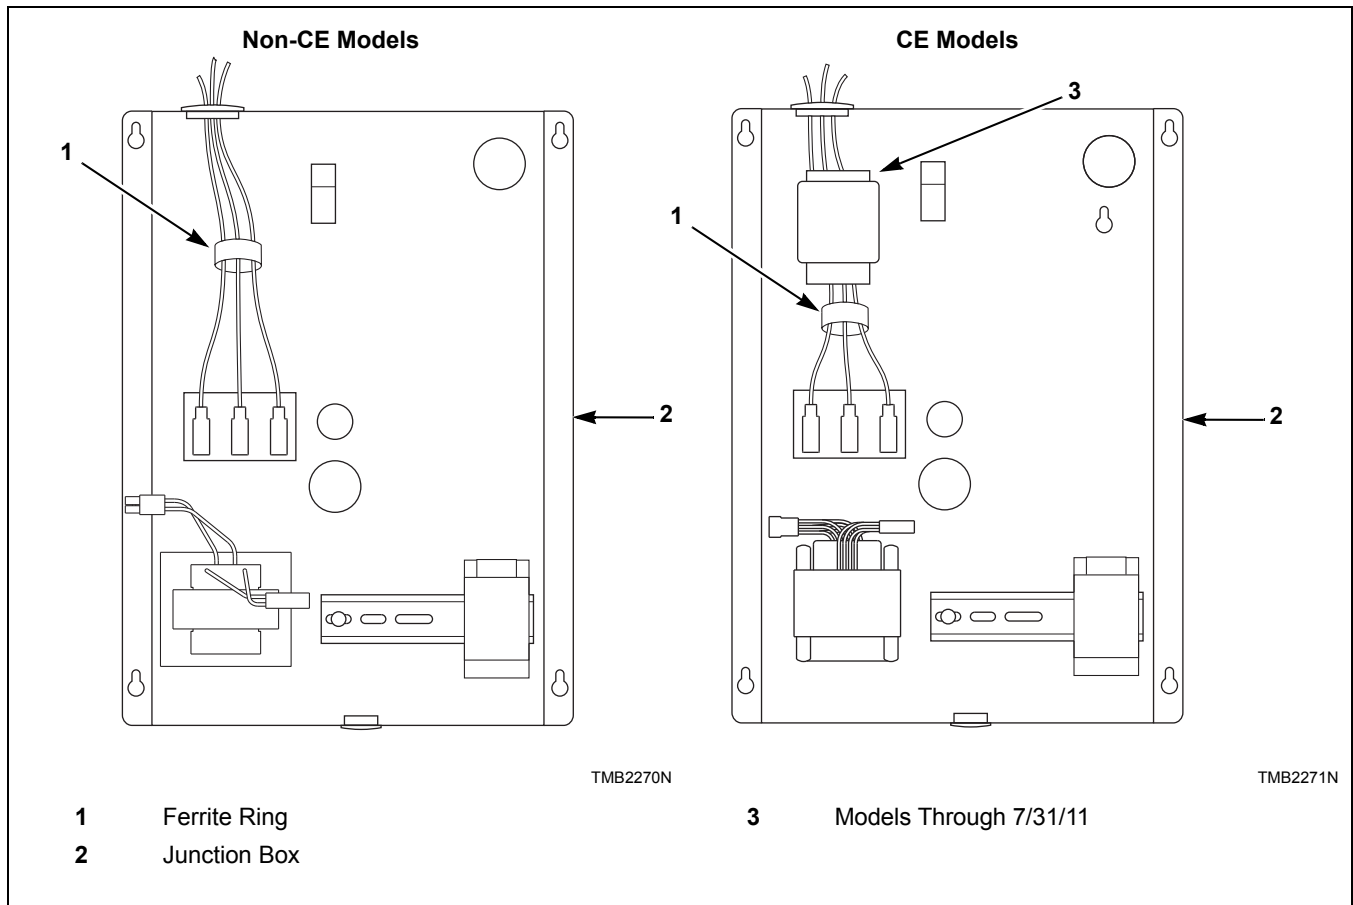

Figure 21
2. Snap the ferrite ring closed over all the service leads inside of the contactor box as shown. It is important that the ferrite ring be installed inside the contactor box. Refer to *Figure 21*. Do not install the ferrite outside of the box or other area. Make sure that service leads are in the center of the ferrite before closing the ring so as not to pinch or damage leads.